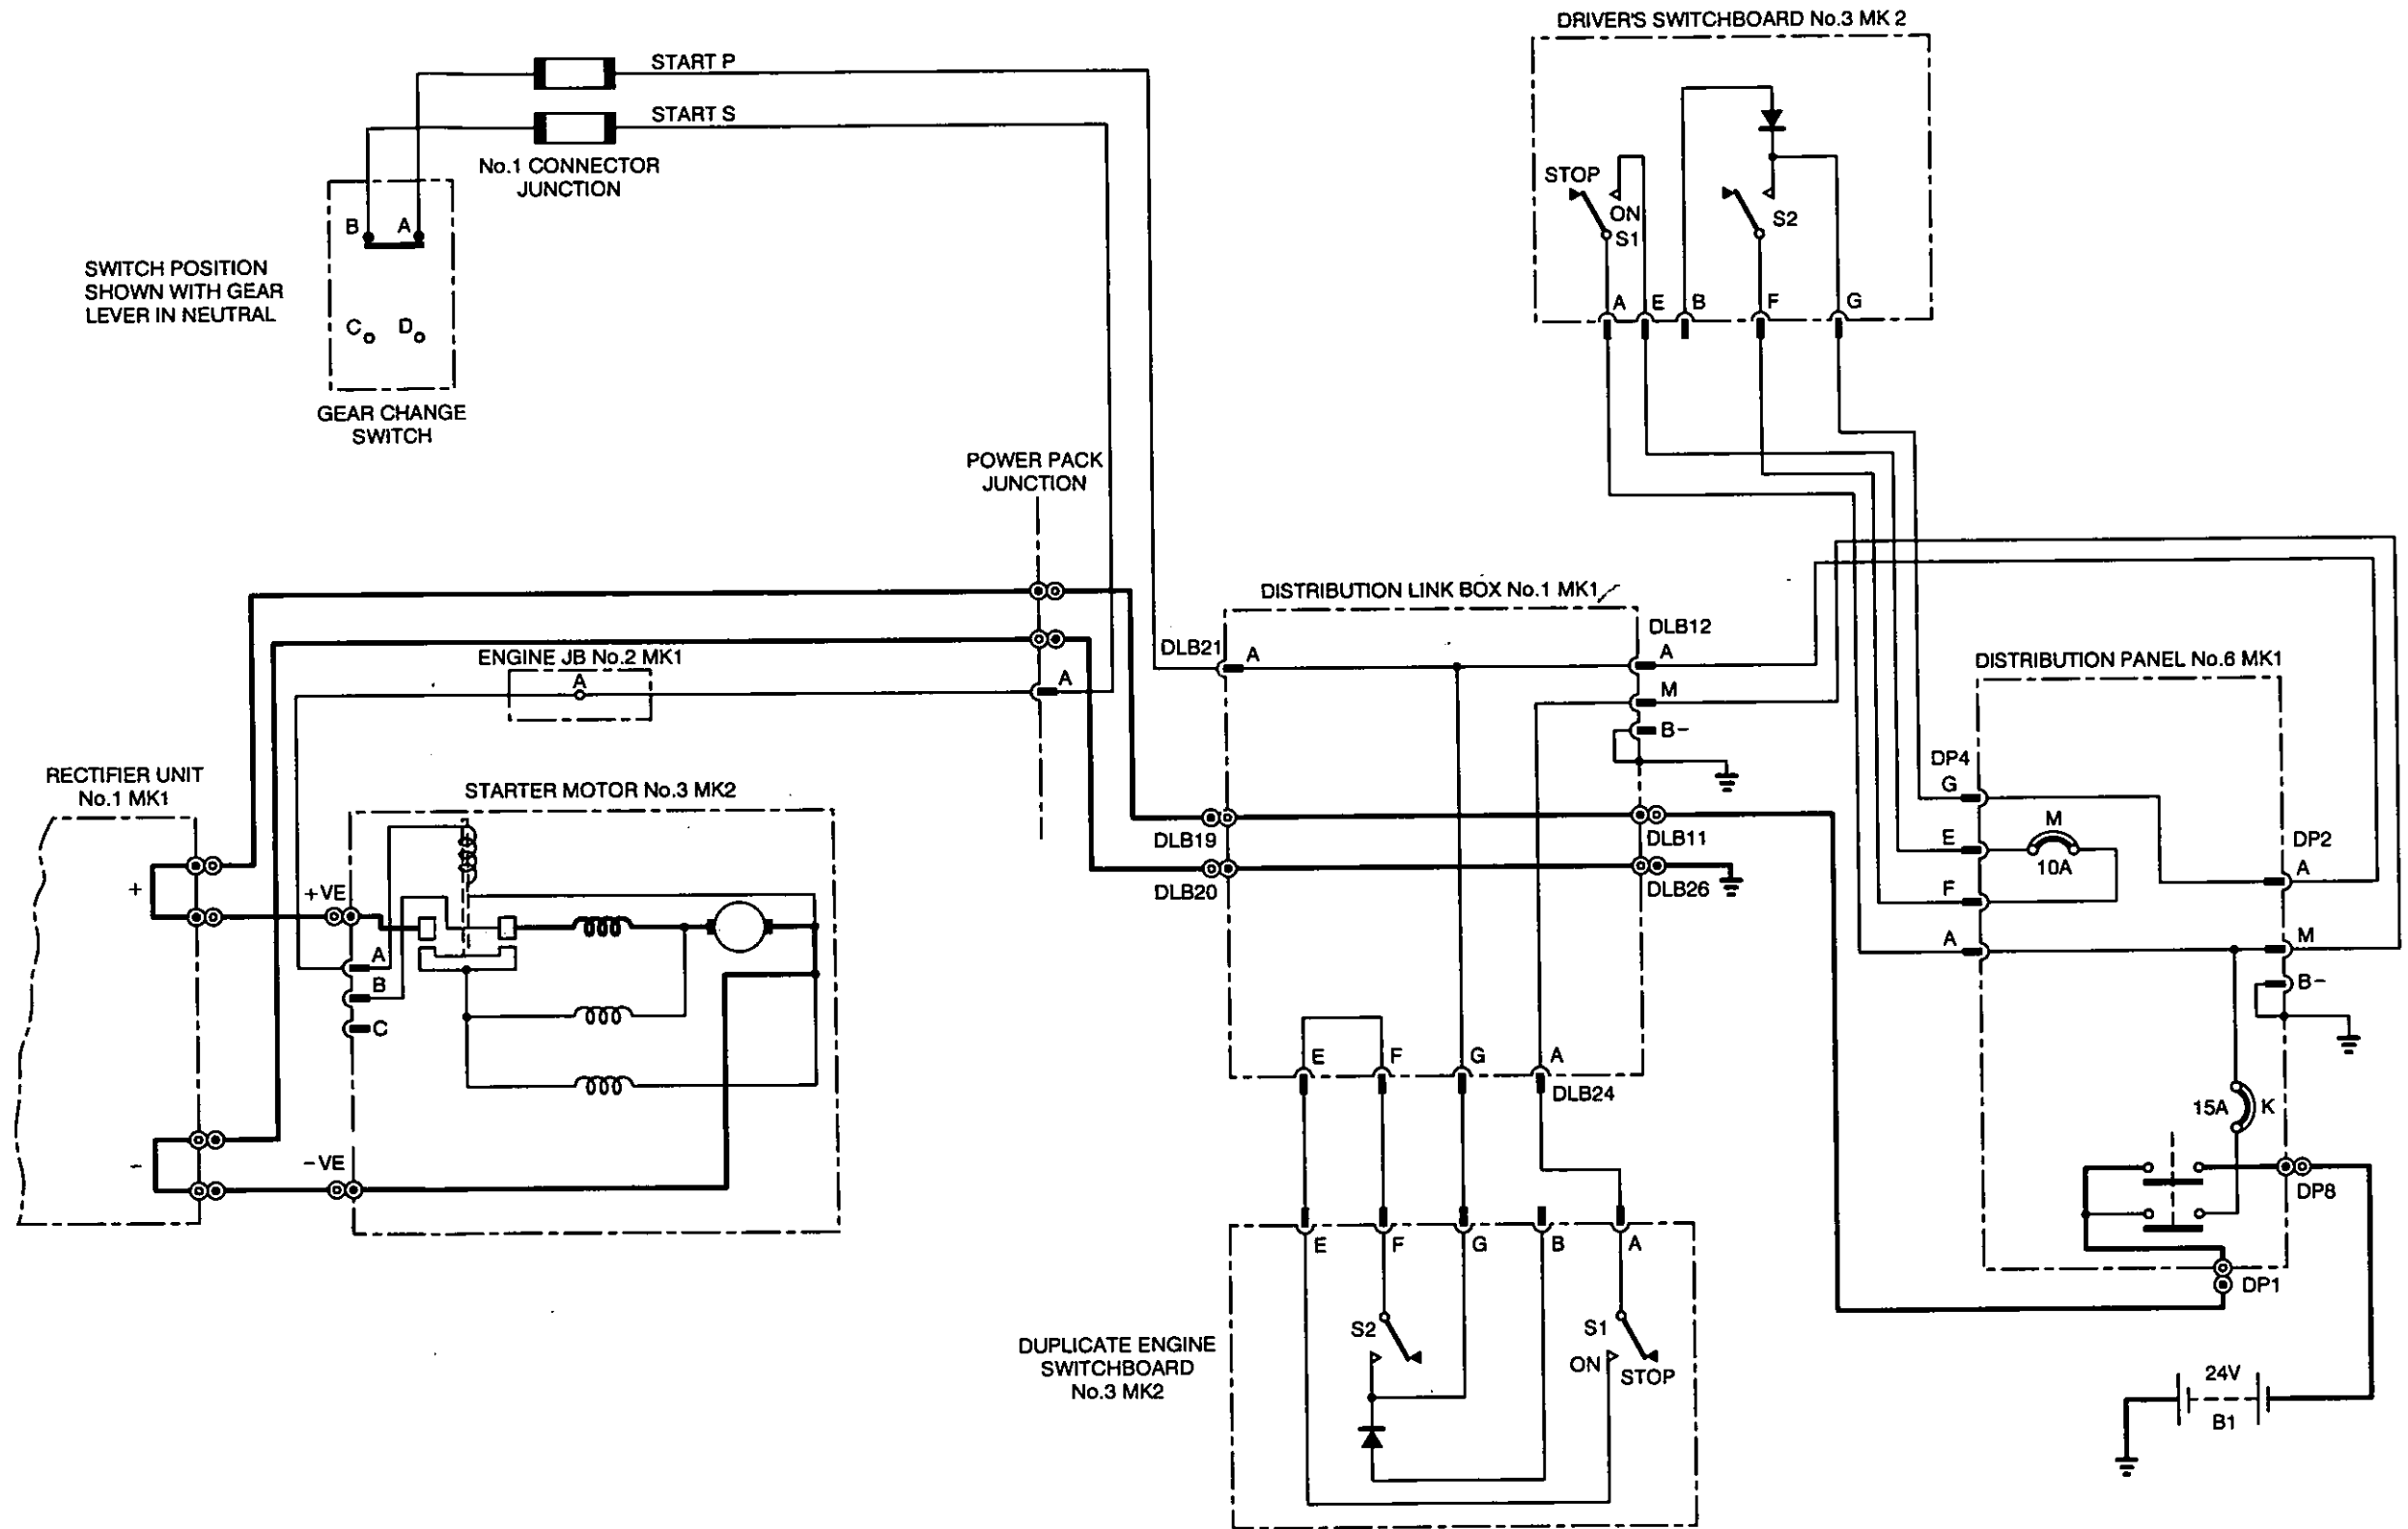

Fig 4 Starter motor circuit
- 50 Table 9 enables a fault to be traced in the motor heavy current circuit, with reference to Fig 4.
52 Table 10 enables a fault in the starter solenoid circuit to be traced from the drivers engine switchboard, with reference to Fig 4.
53 Table 11 enables a fault in the starter solenoid circuit to be traced from the duplicate engine switch board, with reference to Fig 4.